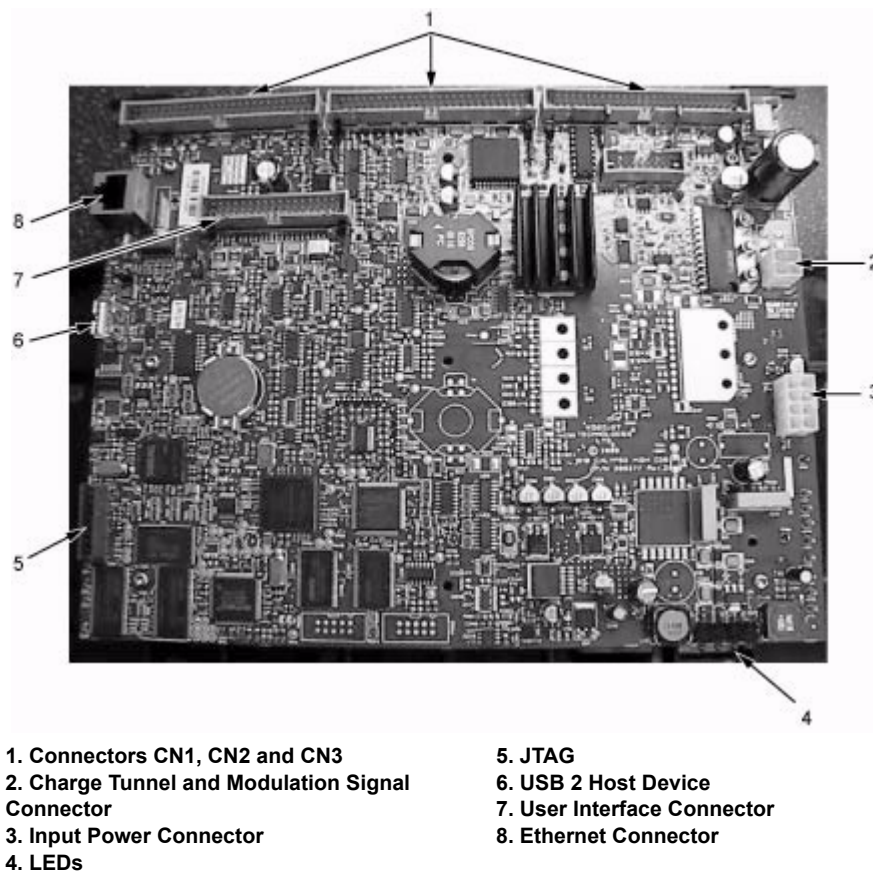

Figure 3-25: Control System Board
The ribbon cables from the PIB connect to the CSB through the connectors 1, 2 and 3 (item 1, Figure 3-25) and relay the data that reaches PIB from different parts of the printer to the CSB.
You can check the voltages at input power connector (item 3, Figure 3-25 on page 3-22) to make sure that the power supply from the mains power supply is of the correct value.